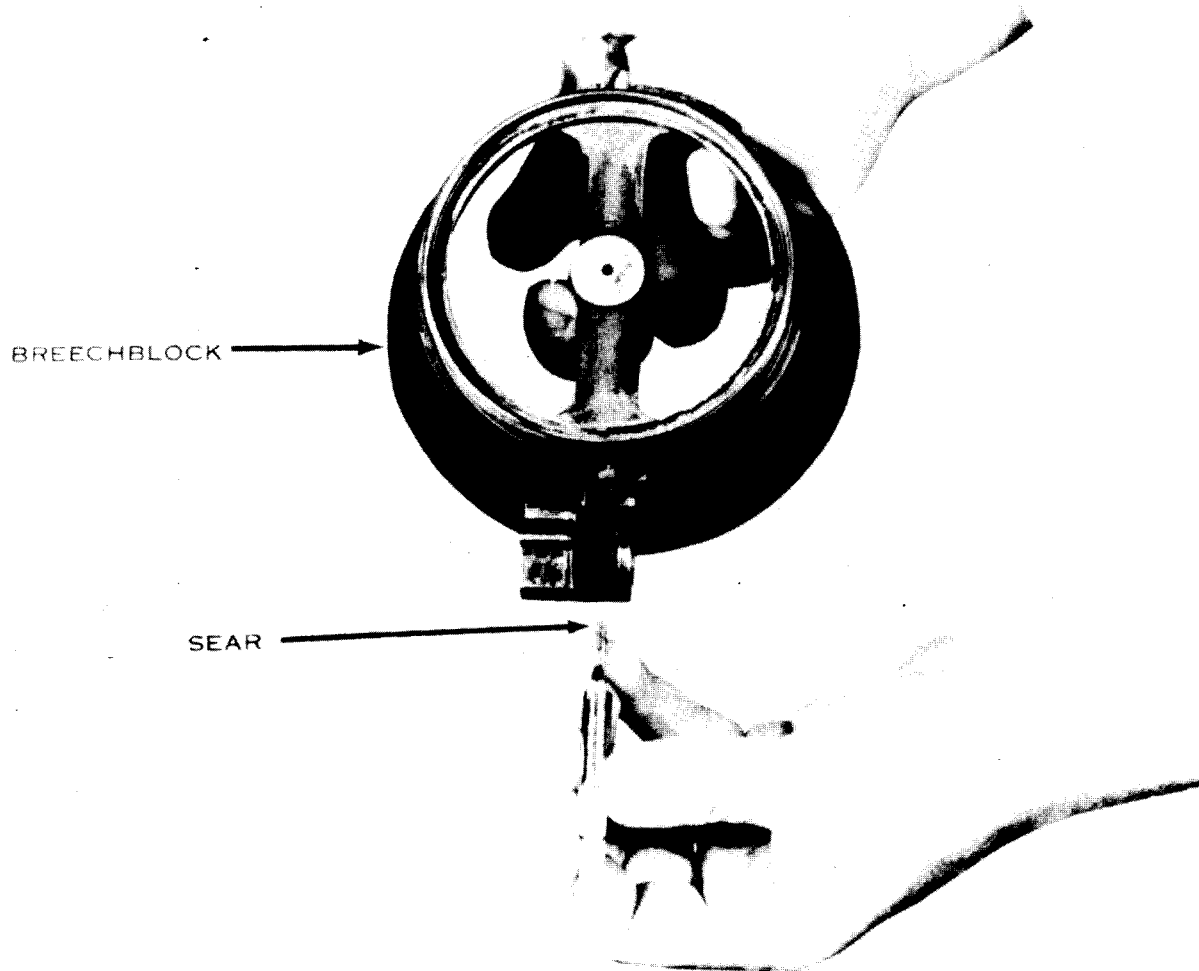

Figure 12. Removing the sear.
- (h) Turn the breechblock over and remove the sear (9, fig. 6 and fig. 12).